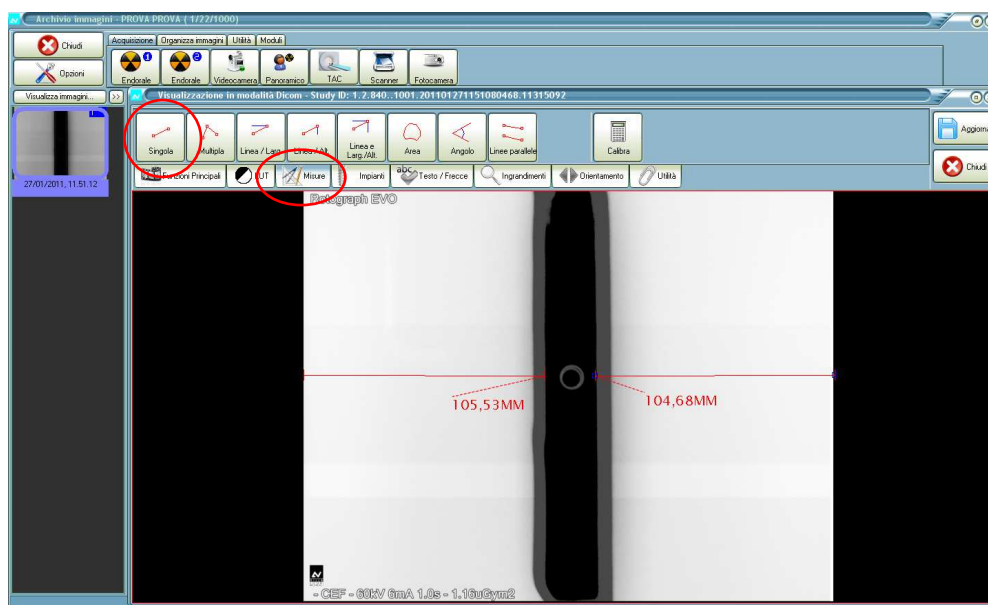

Figure 9-31
24. Select from the menu "Measure" the icon "Single" and measure the distance between the borders of the image and the borders of the central vertical stripe (Figure 9-31).